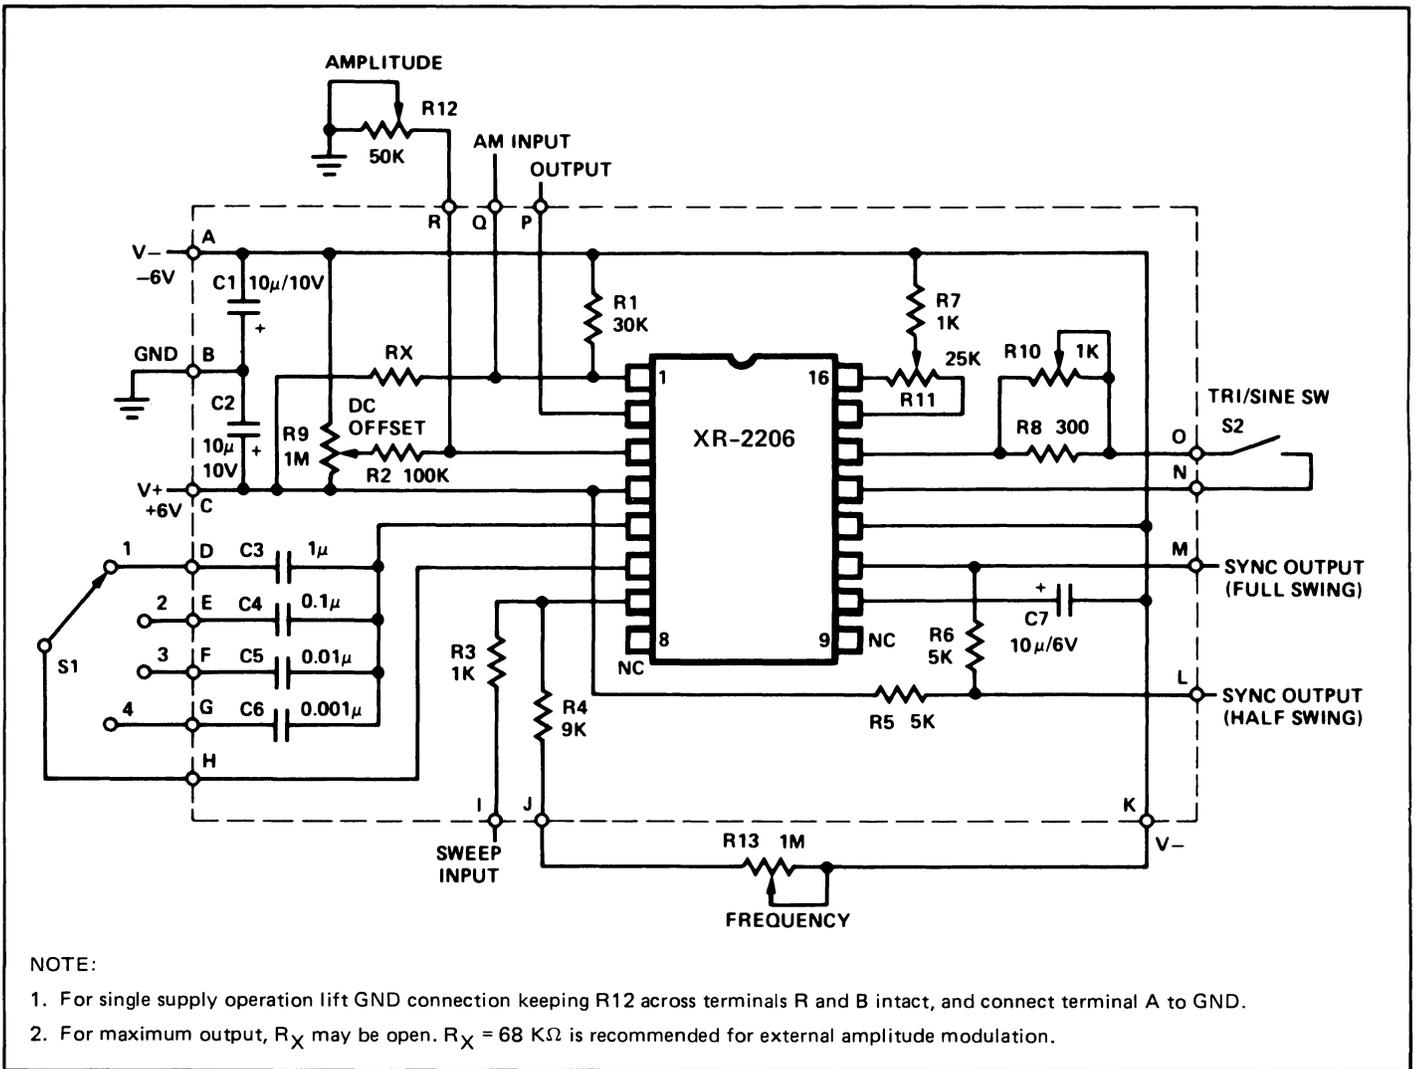

Figure 1. Circuit Connection Diagram for Function Generator. (See Note 1 for single supply operation.)
(b) **Frequency Setting:** At any range setting, frequency can be varied over a 100:1 tuning range with a potentiometer (see R_{13} of Figure 1).
The above expression is accurate to within $\pm 5\%$ at any range setting. The timing resistor R is the series combination of resistors R_4 and R_{13} of Figure 1. The timing capacitor C is any one of the capacitors C_3 through C_6 , shown in the figure.
(d) **Sine and Triangle Output:** The sine and triangle output amplitudes are variable from 0V to $6 V_{pp}$. The amplitude is set by an external potentiometer, R_{12} of Figure 1. At any given amplitude setting, the triangle output amplitude is approximately twice as high as the sinewave output. The internal impedance of the output is 600Ω .
(f) **Sync Output:** The sync output provides a 50% duty cycle pulse output with either full swing or upper half swing of the supply voltage depending on the choice of sync output terminals on the printed circuit board (see Figure 1).
(g) **Frequency Modulation (External Sweep):** Frequency can be modulated or swept by applying an external control voltage to sweep terminal (Terminal I of Figure 1). When not used, this terminal should be left open-circuited. The open circuit voltage at this terminal is approximately 3V above the negative supply voltage and its impedance is approximately 1000 ohms.
(h) **Amplitude Modulation (AM):** The output amplitude varies linearly with modulation voltage applied to AM input (terminal Q of Figure 1). The output amplitude reaches its minimum as the AM control voltage approaches the half of the total power supply voltage. The phase of the output signal reverses as the amplitude goes through its minimum value. The total dynamic range is approximately 55 dB, with AM control voltage range of 4V referenced to the half of the total supply voltage. When not used, AM terminal should be left open circuited.